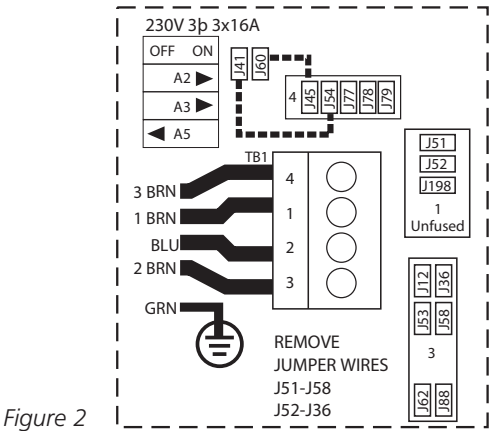

Figure 2
- 2. Only reinstall jumper wires as indicated by dotted lines in Figure 2.